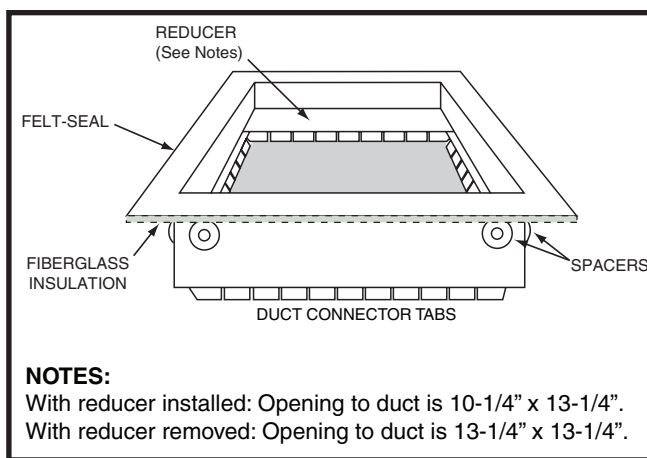

Figure 8. Duct Connector
- This furnace is certified for use on wood flooring or supports, but must not be installed directly on carpeting, tile, or any combustible material other than wood flooring. **NOTE:** The furnace may be installed on combustible flooring when installed on a duct connector (Figure 8). This factory supplied accessory must be installed in the floor cavity and attached to the supply air duct before the downflow furnace is installed.